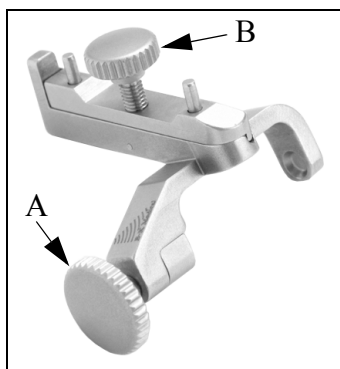

Figure 3. Puncture attachment UA 1250.
The puncture attachment (see Figure 3) comprises an attachment bracket, an attachment lock screw (item A in Figure 4), a needle guide, a needle-guide lock screw (item B in Figure 4) and a variable diameter holder for fine needles (0.6 mm or 24 gauge) and large bore needles (2.4 mm or 13 gauge). The guide channel is angled at 18° to the transducer's image axis.
Note: When mounted the attachment lock screw (item A in Figure 3) should be on the side of the transducer handle opposite to the transducer's control button.
- 2 Fix the attachment bracket in position by tightening the attachment lock screw (item A in Figure 3). Tighten the screw up to its “locking point”, after which it will not be possible to tighten the screw anymore.
- 4 Using the needle guide locking screw (item B in Figure 3), adjust the needle guide according to the size of needle to be used.